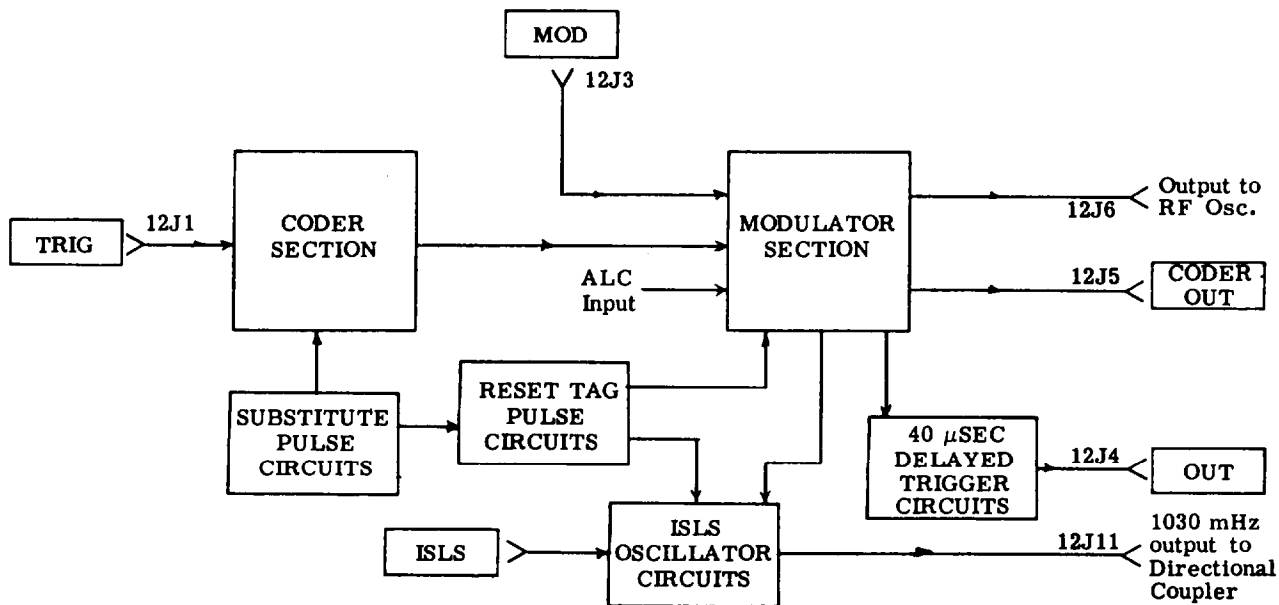

Figure 4-2. Interrogation Coders Overall Functional Block Diagram
(1) INTERROGATION CODER. - As shown in the block diagram, figure 4-2, the Interrogate ion Coder may be divided for discussion into two main functional sections: the coder section and the modulator section, with additional circuits for production of ISLS pulses, substitute pulses, and reset tag pulses. The coder section is capable of simulating interrogation signals in the several modes used in IFF/SIF systems. Waveforms are shown in figure 4-3 and voltage and resistance measurements are given in table 4-1.